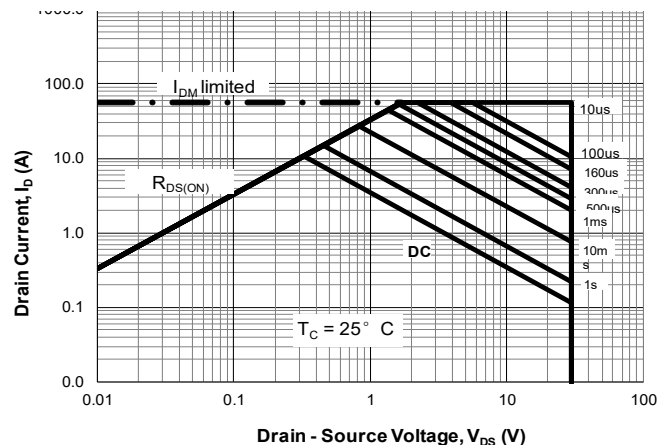

Figure 22. Safe Operating Area (SOA) Curves for Sink Power Switch
Referring to the SOA curve in Figure 22, the maximum power allowed for 2ms (DC) is 50W (2.5A x 20V or 5A x 10V). The AOZ1328DI power switch is robust enough to drive a large output capacitance with load in reasonable soft-start time.